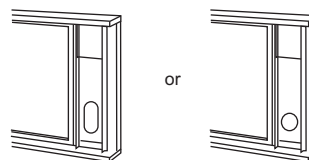

Fig. 15
5. Cut the foam seal to an appropriate length and seal the open gap between the top window sash and outer window sash. Shown as in Fig.15.